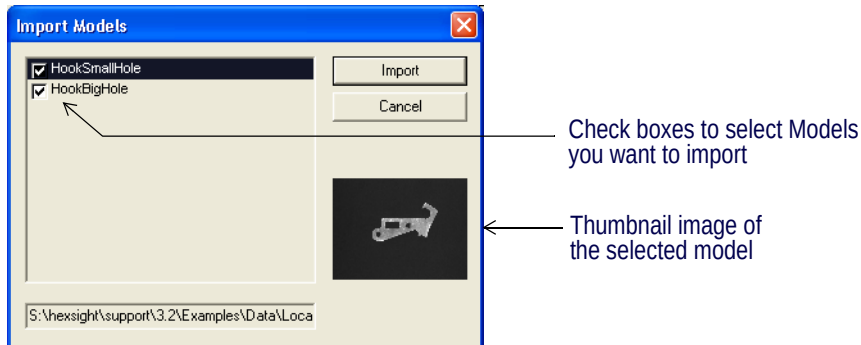

Figure 173 Importing Models
- Use **Import...** to import selected files into the current Model database through the Import Models dialog (Figure 173). Formats that are supported for importing are hdb (HexSight database), hig (HexSight image), bmp and dxf.